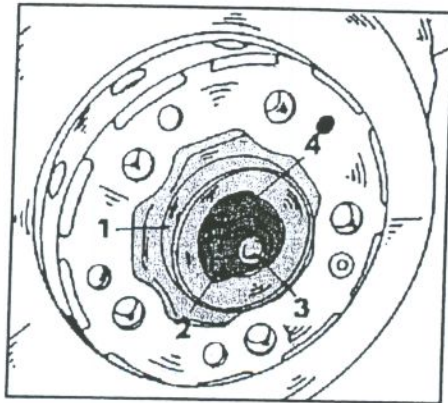

Fig. 4.11 - Details for the front wheel bearing adjustment.
- Refer to Fig. 4.11 and slacken the socket head clamp bolt for the nut (2). Rotate the wheel hub evenly and at the same time tighten the clamp nut until the hub can just be rotated.
- From this position slacken the nut by 1/3 of a turn. With a rubber or plastic mallet knock against the end of the stub axle (3) to release any tension in the wheel bearings.